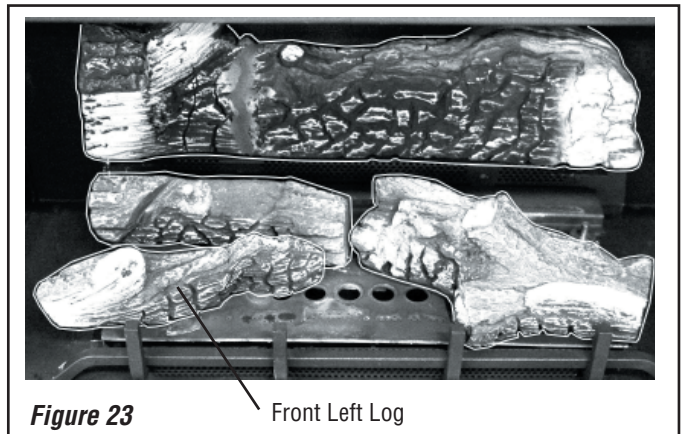

Figure 23 Front Left Log
4. Place the Front Left Log onto the 2 corresponding locating pins as shown in Figure 23.